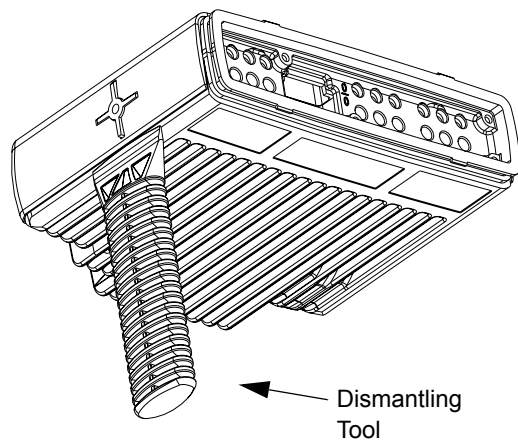

Figure 6-3 Top Cover Removal.
1. Insert the dismantling tool in the middle of the terminal assembly side groove as shown in Figure 6-3.